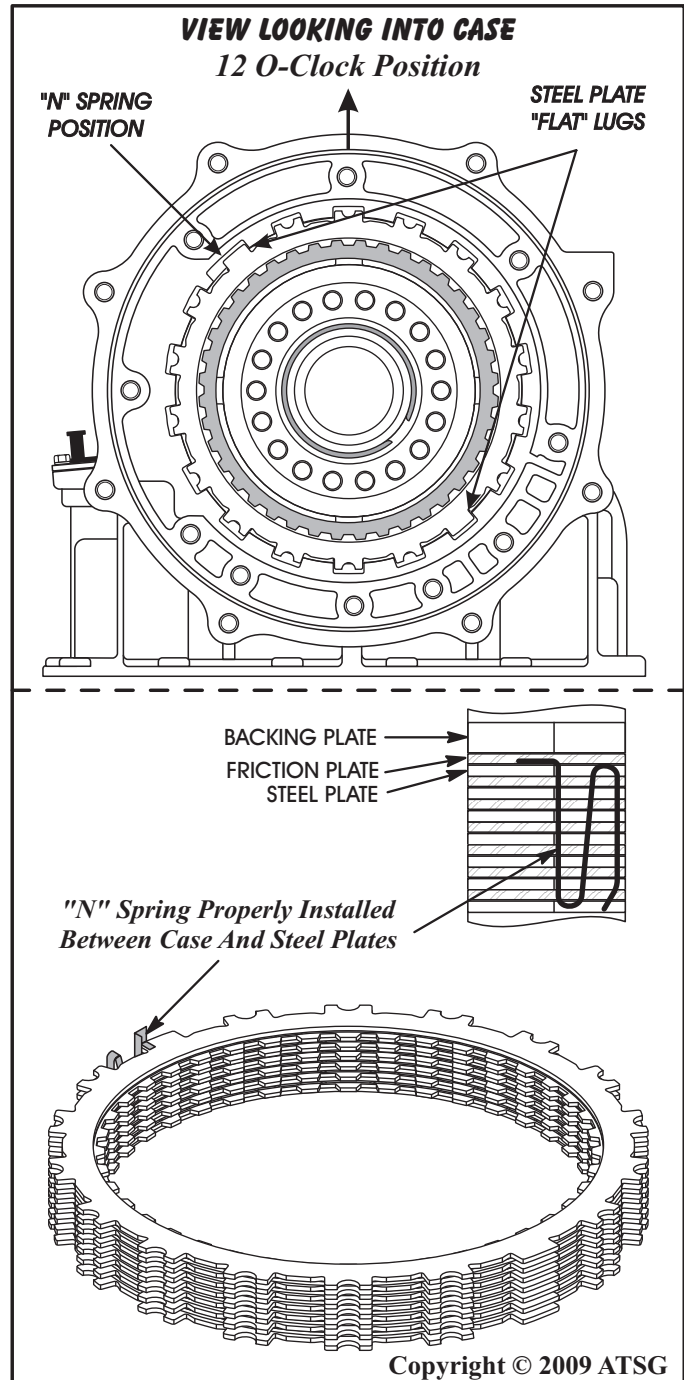

Figure 204
**Note:** All clutch plates should be soaked for 30 minutes in proper fluid before assembly. The steel plates have two "flat" lugs that must be oriented in case as shown in Figure 204. "Do Not" yet install the last friction.
- Note:** The small tab should rest on top of the last steel plate, as shown in Figure 204, after installation.